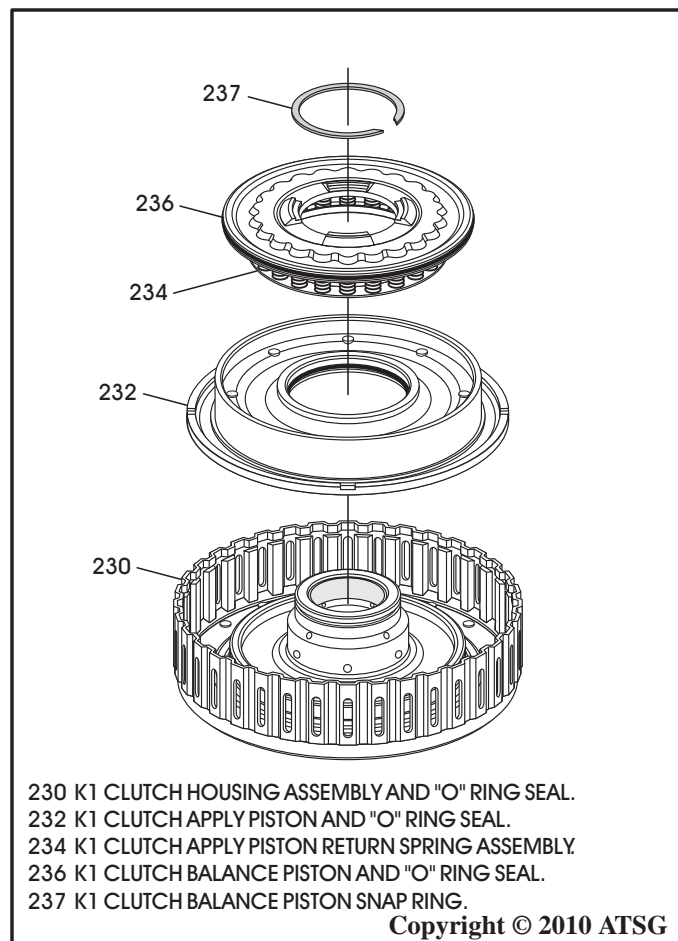

Figure 127
8. Install the completed K1 clutch apply piston in K1 clutch housing, as shown in Figure 127.
9. Install the completed K1 balance piston and return spring as an assembly, as shown in Figure 127.
10. Compress the balance piston and return spring and install the retaining snap ring, as shown in Figure 127.